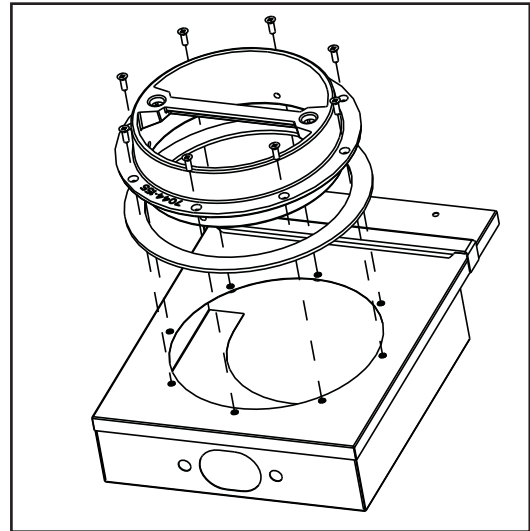

Figure 40.3
2. Slide the gasket over the the flue collar and attach it to the offset adapter using the 8-32 flathead screws provided. **Figure 40.3**.